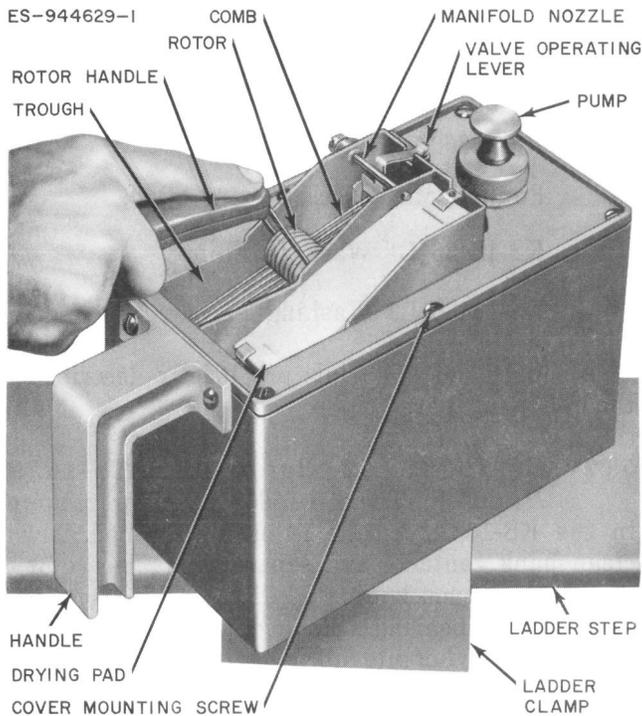

Fig. 7—Method of Flushing KS-16062 L2 Rotor Using KS-16297 L50 Flushing Unit
5.03 **KS-16297 L50 (MD) Flushing Unit**
(Fig. 7 and 8): The flushing unit is provided to flush and apply KS-16436 L1 or L2 washing fluids to the rotor discs at the bank cleaner. The procedure for using the KS-16297 L50 flushing unit is discussed in (1) through (7).
(1) The flushing unit contains two receptacles, one for used and the other for fresh KS-16436 L1 or L2 washing fluid. The tank of the unit serves as the receptacle for used fluid. Fresh liquid is poured into the can fastened to the underside of the cover of the unit. The can fits in the tank when the cover is in place on the tank.
(2) The cover of the unit has an inclined trough with a comb of eight wires extending the length of the trough. At the upper end of the trough, the manifold nozzle feeds fresh liquid, under pressure, to the rotor discs being flushed when the associated valve is opened by pressing the rotor discs against the valve operating plate. The valve can also be opened manually by depressing the lever on the operating plate to flush the KS-16365 wiper cleaner used for cleaning wipers and commutator contacts. A coil spring on the lower part of the valve plunger holds the valve closed and the valve operating plate in its normal position. At the lower end of the trough are several holes for draining used liquid into the tank.
(7) The flushing unit is mounted on a U-shaped spring clamp to hold the unit to the step of a ladder as shown in Fig. 7. A swivel joint is provided between the unit and the clamp so the unit may be positioned on the ladder step as desired. The bottom of the clamp serves as a base when the flushing unit is placed on a flat surface. The unit is also equipped with a handle at one end.
(1) Position the rotor in the trough of the flushing unit so six wires of the comb are sandwiched between the discs of the rotor and the remaining wires are against the outer surfaces of the end discs as shown in Fig. 7. Roll the rotor to the upper end of the trough against the valve operating plate, thus opening the valve, and saturate the rotor with KS-16436 L1 or L2 washing fluid.
(2) While maintaining pressure against the trough, roll the rotor back and forth three or four times without opening the valve. This removes some of the excess liquid from the rotor. Remove the rotor from the trough and roll it three or four times over the adjacent drying pad to further remove excess liquid. Press the rotor against the pad during this operation.
(1) Position the rotor in the trough of the flushing unit so that six wires of the comb are sandwiched between the discs of the rotor, and the remaining wires are against the outer surfaces of the end discs as shown in Fig. 7. Roll the rotor to the upper end of the trough against the valve operating plate, thus opening the valve, and flush the rotor with KS-16436 L1 or L2 washing fluid.
(2) While maintaining pressure against the trough, roll the rotor back and forth, making sure that it is saturated with liquid at the upper end of every third or fourth stroke. These operations remove the sludge and debris from the discs. When the liquid in the trough appears clear, roll the rotor back and forth three or four times without opening the valve. This removes some of the excess liquid from the rotor. Remove the rotor from the trough and roll it three